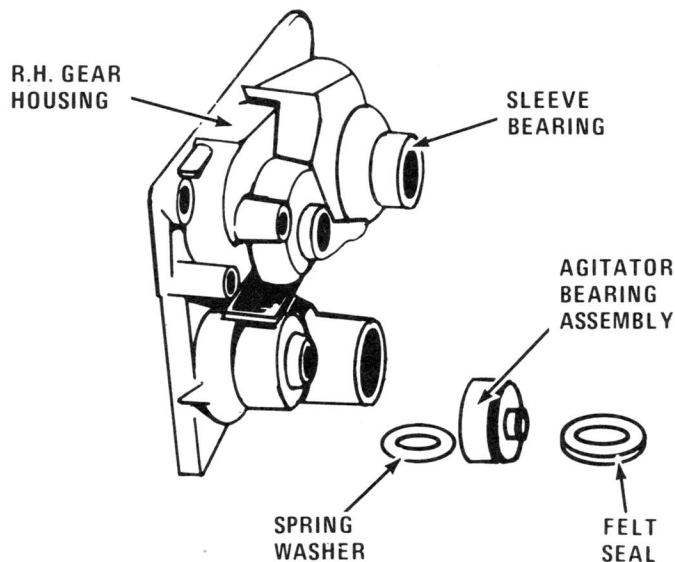

Fig. 6
- g. Remove and inspect Felt Seal, Agitator Bearing Assembly, and Spring Washer from opposite side of Housing. (Fig. 6)